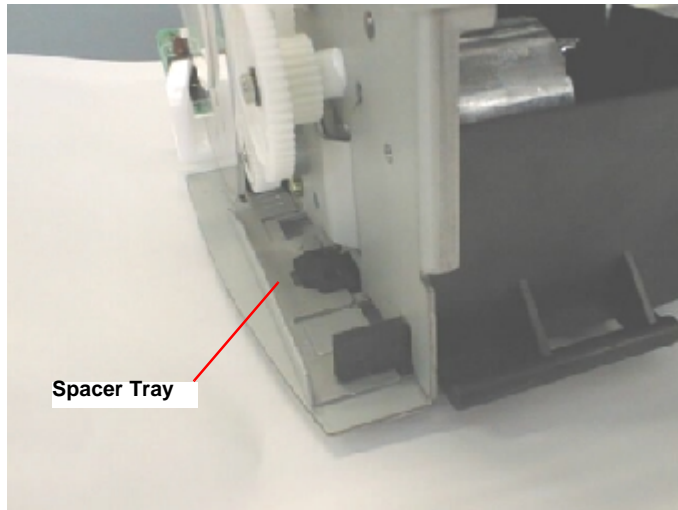

Figure 4-11. Installing the Spacer Tray
1. When installing the Waste Ink Absorber Tray Assembly, make sure to fix it with the Spacer Tray in the left side of the printer mechanism. Refer to Figure 4-11.